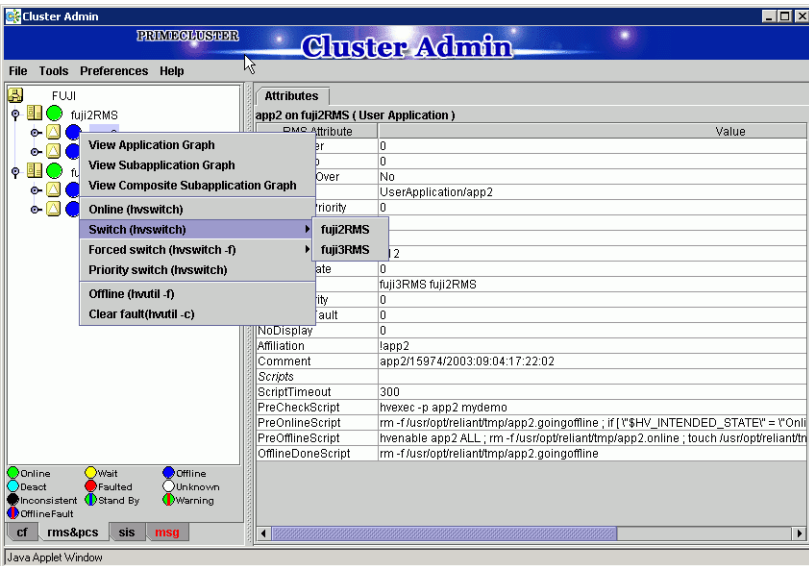

Figure 106: Switching an application
2. Select the target node from the pull-down menu to switch the application to that node (Figure 106).